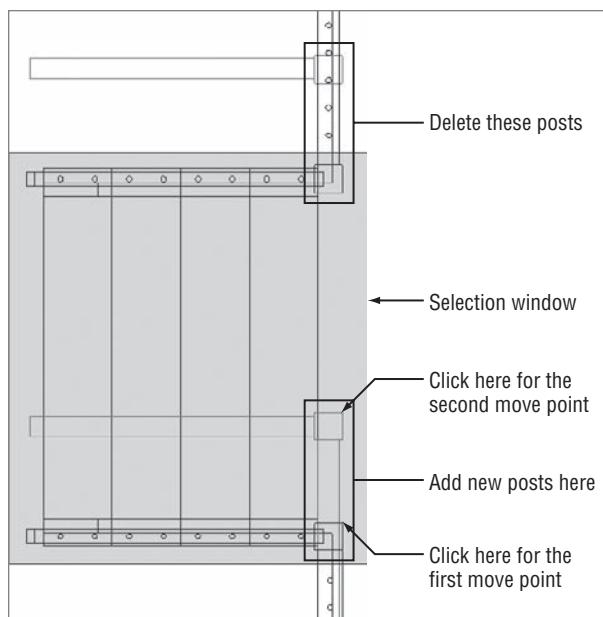

FIGURE 16.72 Moving the deck to make it narrower
12. Delete the $\frac{3}{4}$ " (20 mm) handrail posts in the vertical row on the north side of the 3D steps between the 4" (102 mm) 3D vertical post and the 4" (102 mm) 2D vertical post (see Figure 16.72).
14. Using the MOVE command, move the steps into place, as shown in Figure 16.72. Add any new posts that are required on the south side of the steps. Use the triangular grips to adjust the lengths of the railings as required.